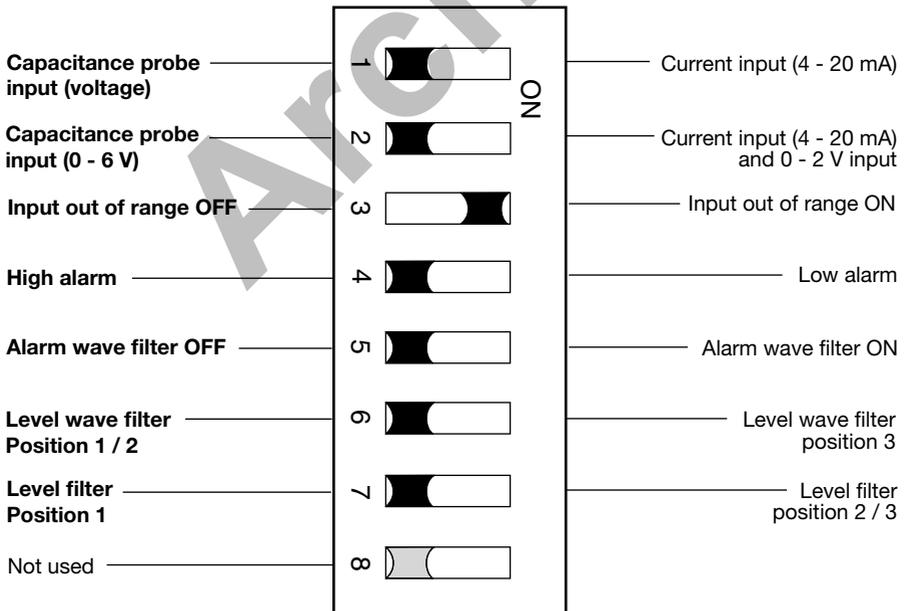

Fig. 3 Ex-works setting in bold
- Set the switches to the positions shown in Figure 3 for the chosen functions.